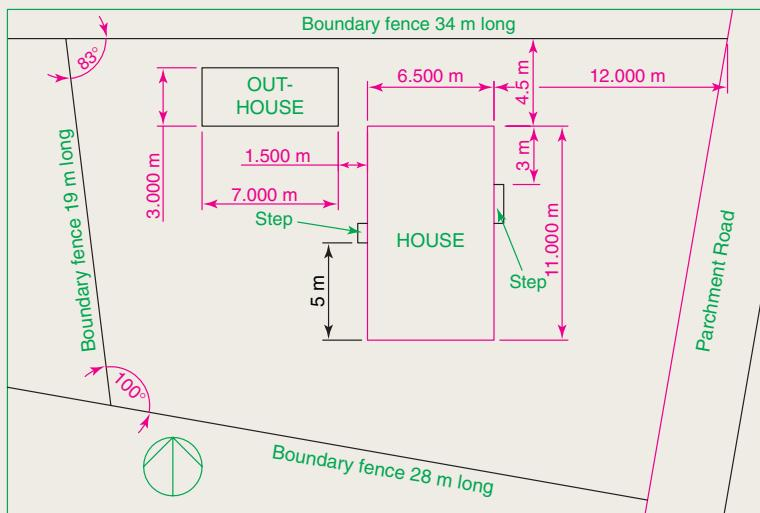

Fig. 16.29 Exercise 2
- Fig. 16.29 is a site plan of a two-storey house in a building plot. Design and construct to a scale 1:50 a suggested pair of floor layouts for the two floors of the proposed house.